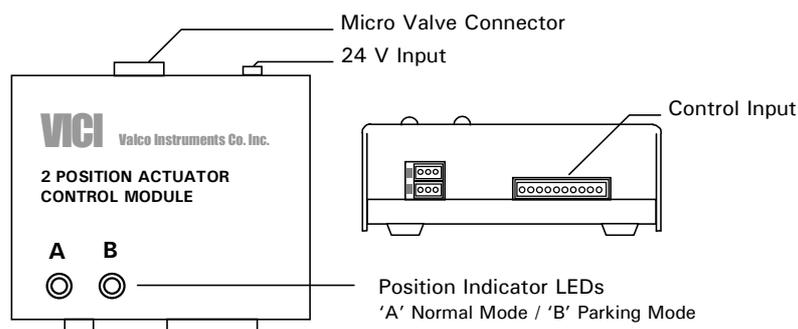

FIGURE 2-4 The Micro Valve Control Module
- c) Connect the 10-pin connector of the peak parking cable to the control input of the valve control module (FIGURE 2-4).
- d) Connect the 24 V power supply to the 24 V input of the valve control module (FIGURE 2-4).
The manual controller can be used to manually control the position of the micro valve. It has a through port and is connected to the 10-pin connector of the control module (FIGURE 2-4). To allow digital control simultaneously, the peak parking cable can be connected to the Manual Controller. The micro valve can be controlled by either or both controllers.